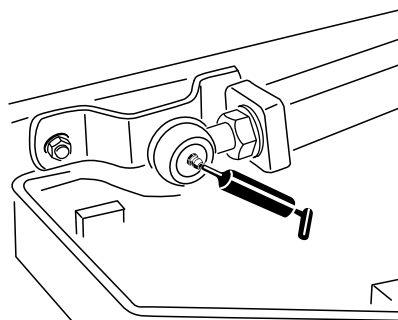

Figure 68
- Lift arm ball joints (2) (Figure 68)